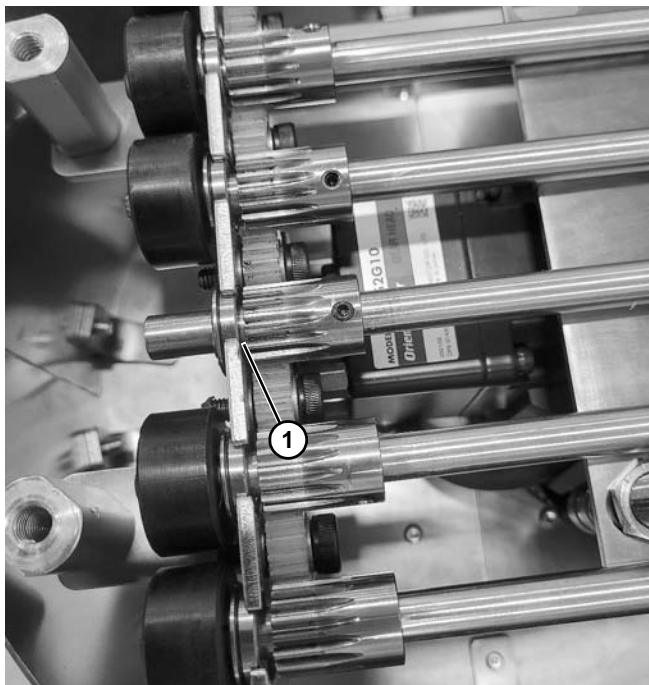

Figure 145
When reassembling, make sure there is a gap (**Figure 145, item 1**) between the gear and the U frame.